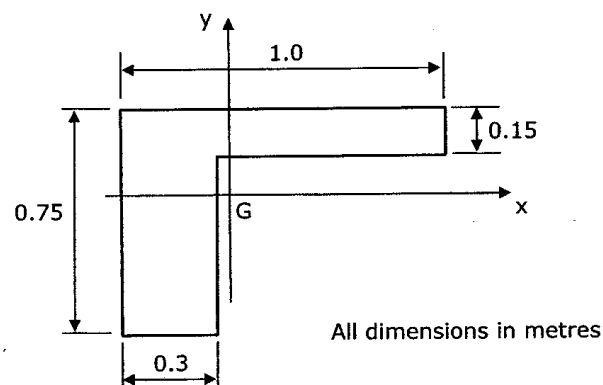

Fig. Q1
1. For the cross-section shown in Fig. Q1 determine,